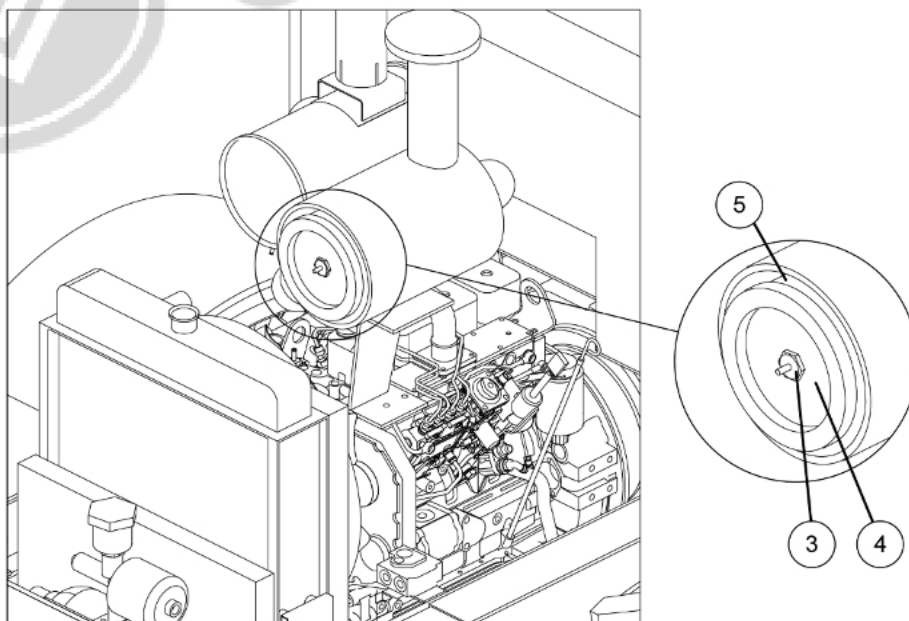

Figure 6-36 Replacing the air filter
(1) Nut (2) Filter cover
Step 3: Unscrew the nut (3) and remove the cover of mounting frame(4), as shown in Figure 6-36;